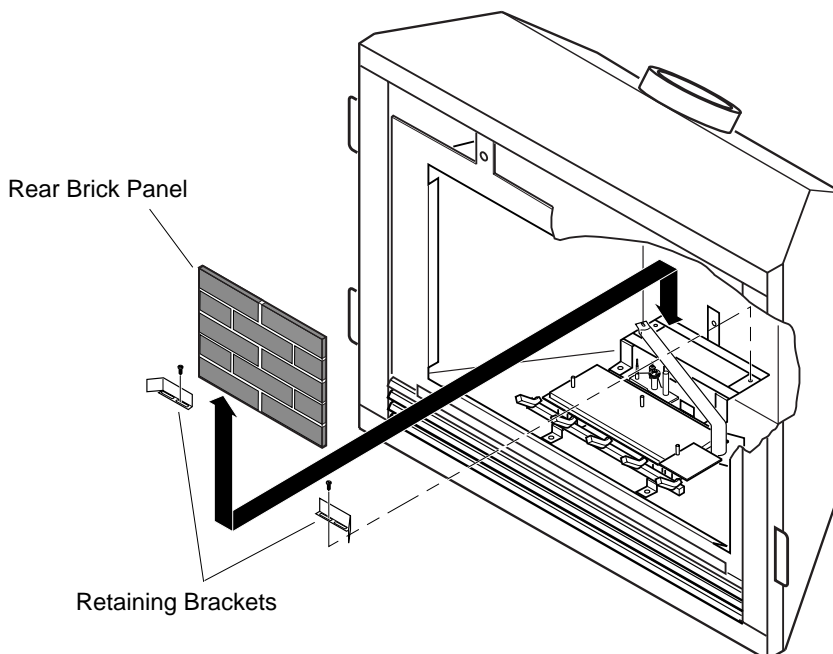

Figure 47 - Installing Rear Brick Panel and Retainer Brackets
3. Install rear brick panel first. Rest bottom edge of panel on back edge of grate (see Figure 47).